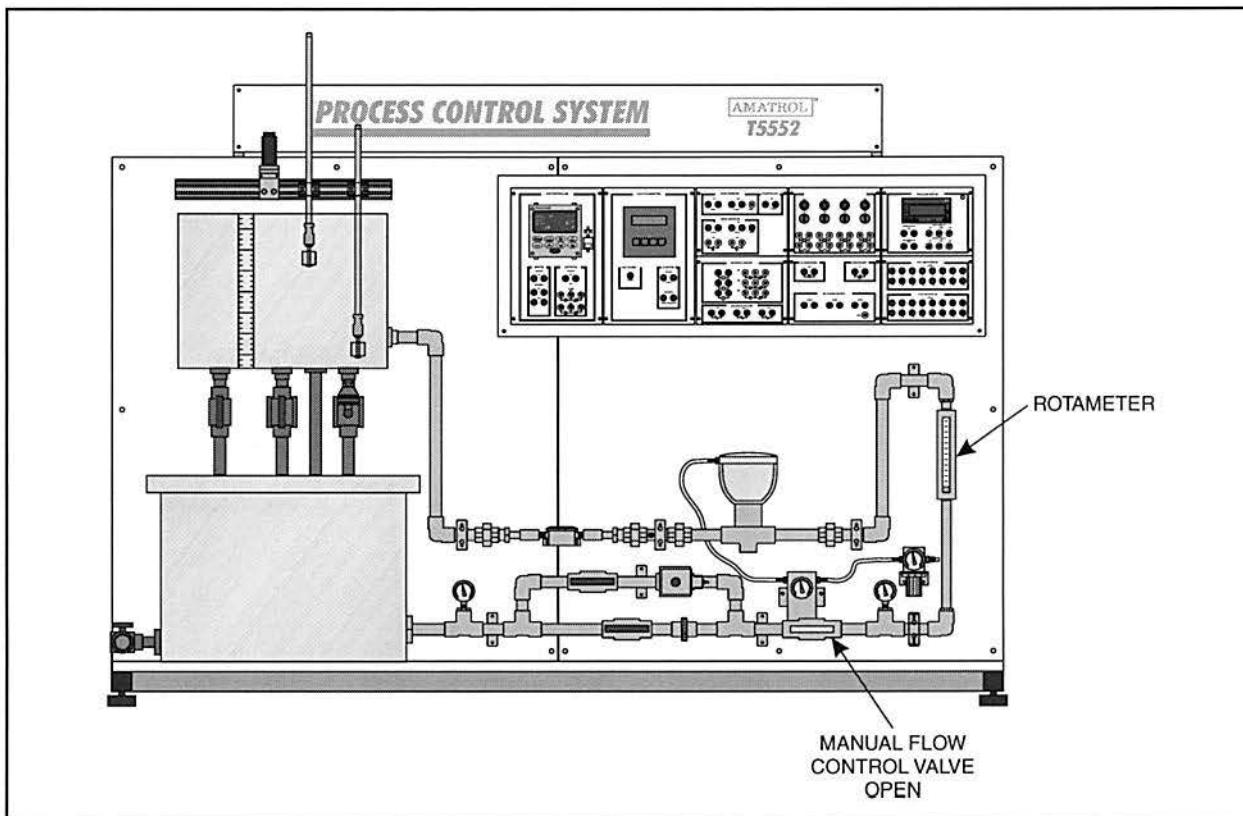

Figure 55. Open Manual Flow Control Valve
- 8. Open the manual flow control valve by turning it counterclockwise until the flow rate indicated on the rotameter, as shown in figure 55, is about 1.3 gpm (gallons per minute).